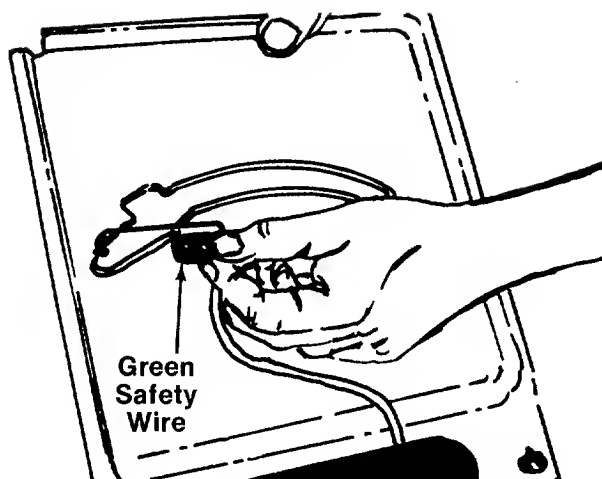

FIGURE 6.
3. Lift the transmission cover. Unplug the green safety wire from beneath the transmission cover. See figure 6. Remove transmission cover.
9. Plug the green safety wire into the switch beneath the transmission cover. Refer to figure 6. Replace the transmission cover and gear shift knob.